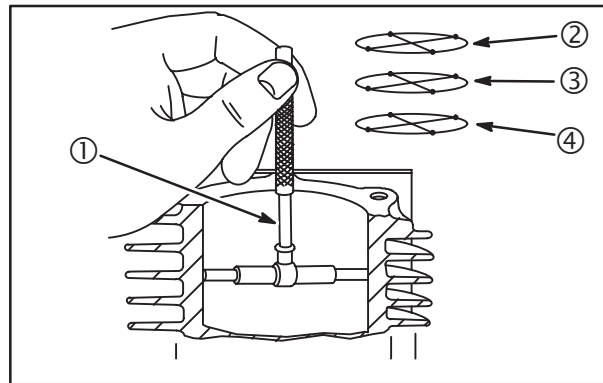

Fig. 2
3. Use Telescoping Gauge #19404 (1), and Dial Caliper #19199 to check cylinder bores for wear. Measure cylinder bore at 6 points as shown, **Fig. 2**. Measure each cylinder bore at 90° angles near the top (2), middle (3) and bottom (4) of piston ring travel as shown.